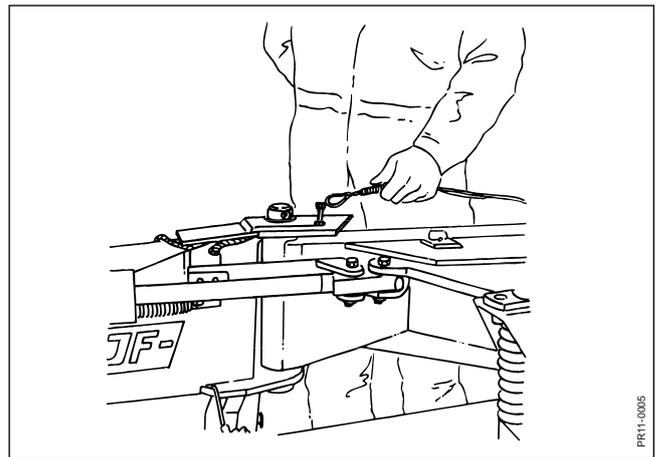

Fig. 2-4
- Fig. 2-4:** Fasten the spring hook to the stop.